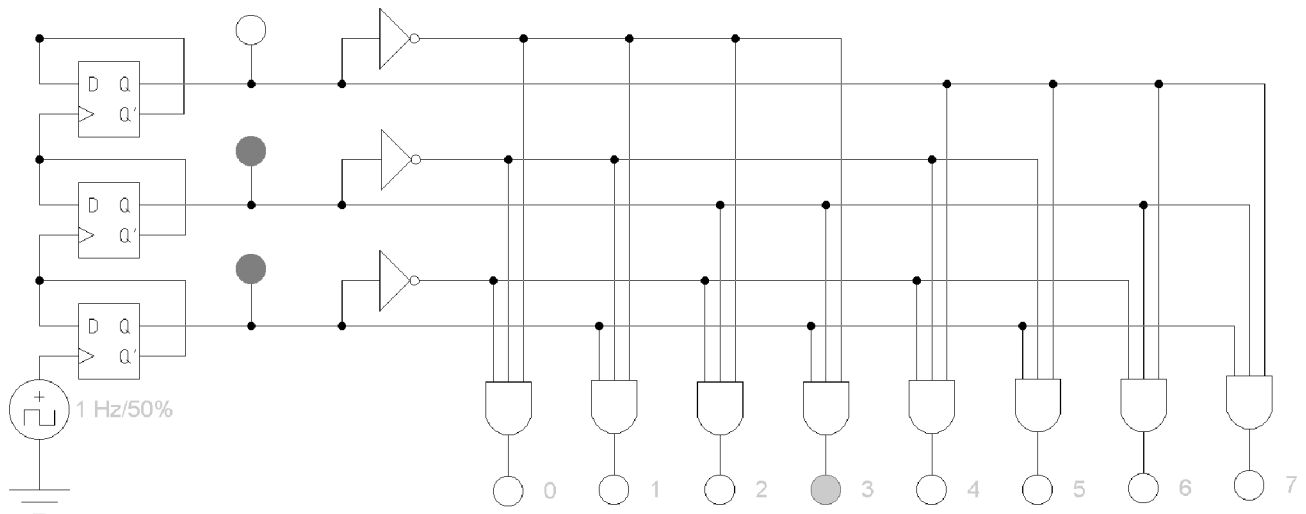

Figure 3.3: Binary to one-of-eight decoder
A key device needed in multiplexing/demultiplexing applications is a binary to one-of-eight decoder, similar to the one shown in Figure 3.3.
- ❓ Given that all digital components in EWB exhibit by default a 10 ns propagation delay, what is the propagation delay from the clock to each of the decoder outputs? Verify this by observing the analyzer output. How could you decrease the propagation delay of the counter/decoder circuit in Figure 3.3?